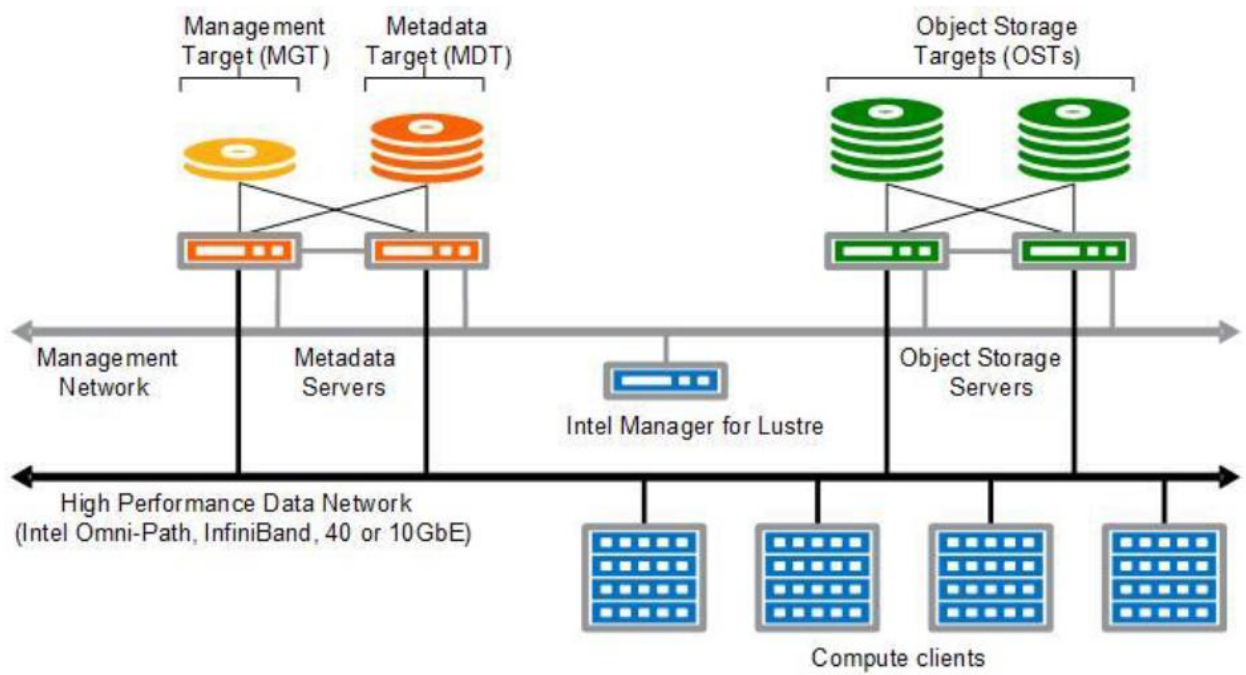

Figure 3 Lustré based storage solution components
The Dell EMC HPC Lustre Storage Solution, referred to as Dell HPC Lustre Storage is designed for academic and industry users who need to deploy a fully-supported, easy-to-use, high-throughput, scale-out and cost-effective parallel file system storage solution. The solution uses the Intel® Enterprise Edition (EE) for Lustre® software v.3.0. It is a scale-out storage solution appliance capable of providing a high performance and high availability storage system. Utilizing an intelligent, extensive and intuitive management interface, the Intel Manager for Lustre (IML), the solution greatly simplifies deploying, managing and monitoring all of the hardware and storage system components. It is easy to scale in capacity, performance or both, thereby providing a convenient path to grow in the future. Figure 3 shows the relationship of the MDS, MDT, MGS, OSS and OST components of a typical Lustre configuration. Clients in the figure are the HPC cluster's compute nodes. The solution is 120 drive system configuration (60 drives per PowerVault MD3460) with 12 OSTs. Each OST consists of 10x 4TB drives. Total raw storage size is 480TB.